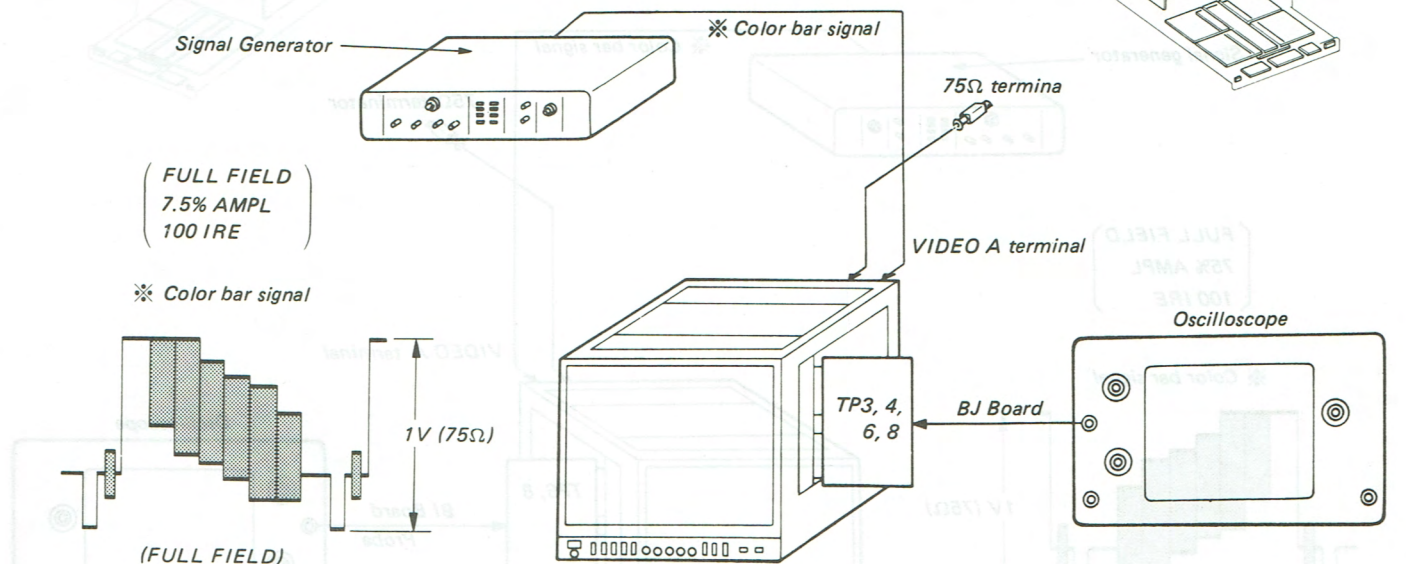

Fig. 5-1.
1. Connect as shown in Fig. 5-1.